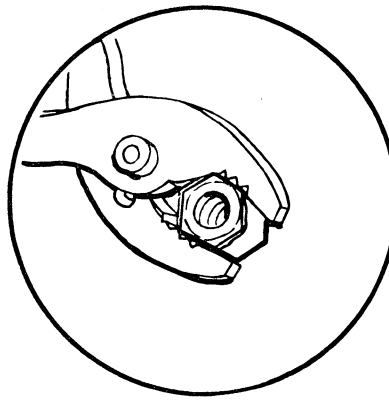

Fig. 13
- Use it to turn nuts. Wrap tape or cloth around the nut to avoid scratching it. (Fig. 13)